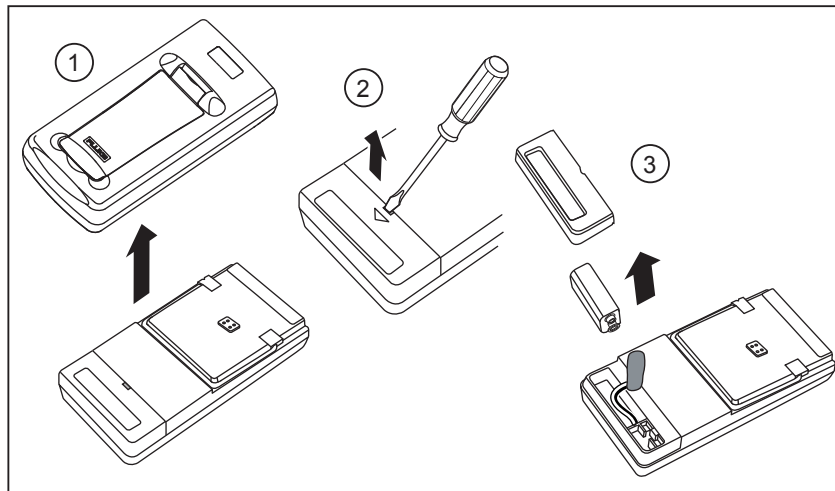

Figure 3. Battery Installation
3. Install the new battery to the battery clip as shown in Figure 3. Use a 9 V alkaline (LR61) battery or comparable.